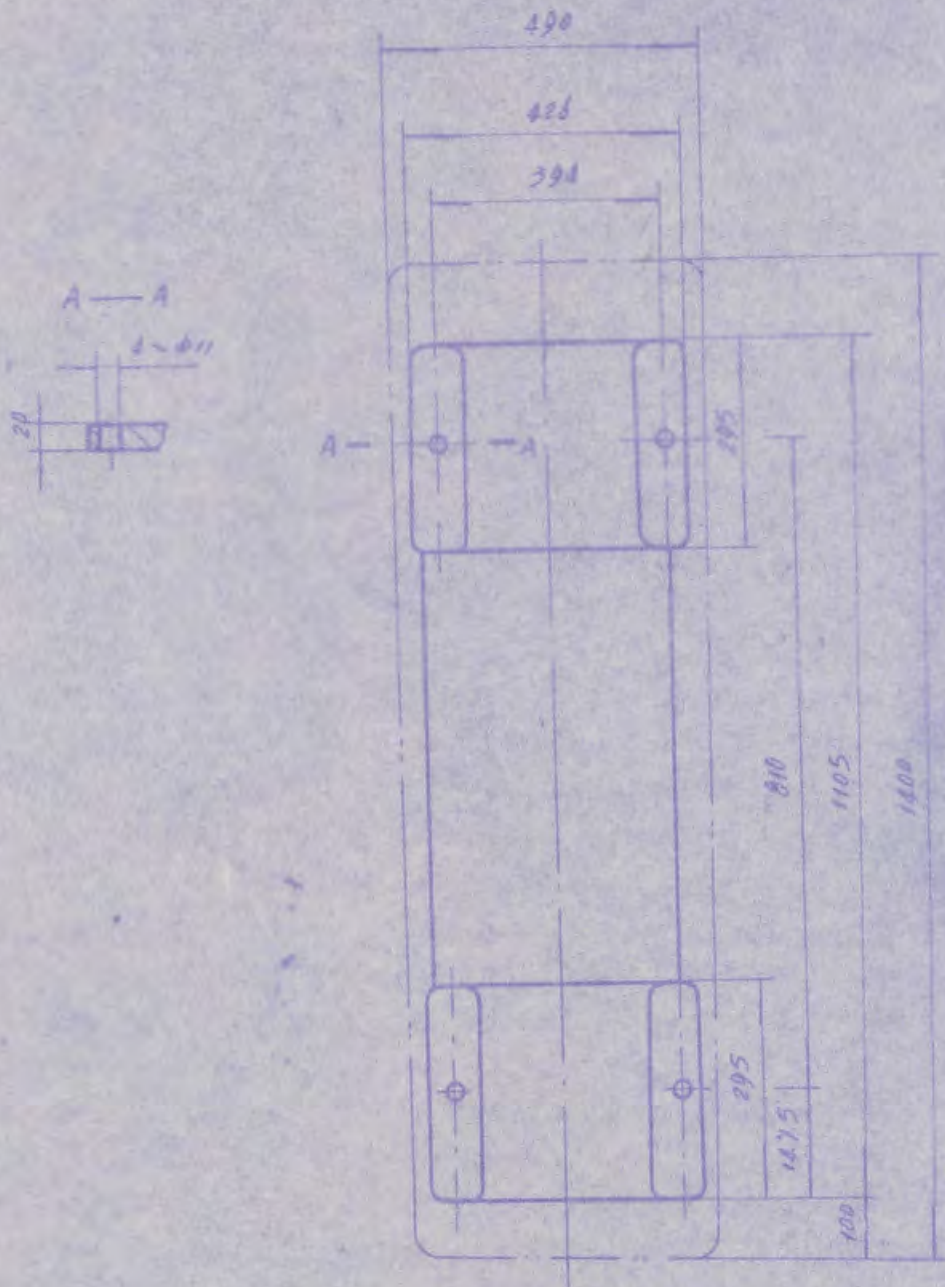

Fig. 15 Installation on Table
- 9.4 CO630B is a bench type one, install it on a sturdy wooden or steel table and secure it with bolts. The surface area of the supporting table can be determined with reference to the installation dimensions of the oil pan of the machine (Fig. 15). Installing the machine on a table which is not strong enough to warrant vibration-free running of the machine will be liable to have bad effect on the working accuracy of the machine, and is therefore not permitted.